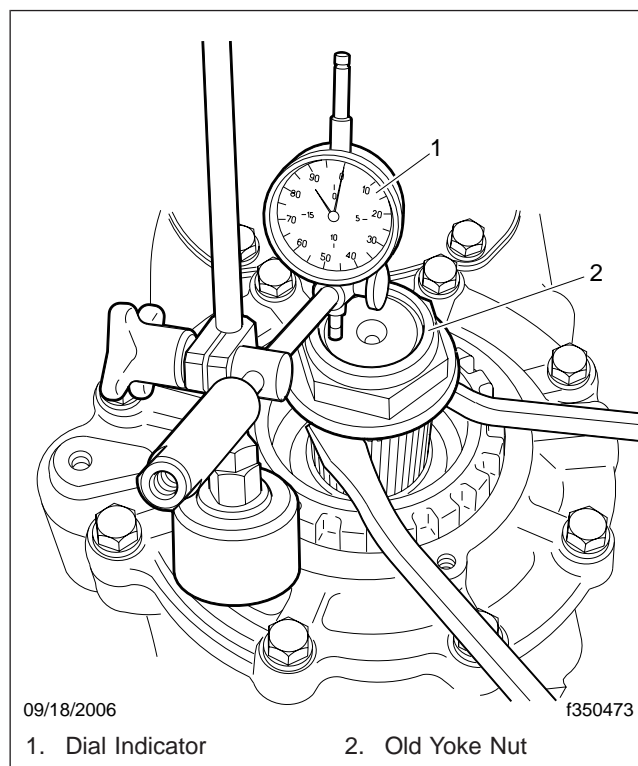

Fig. 4, Measuring Bearing Preload
- 10.1 Install a dial indicator on the bearing cage and using two pry bars, pry up evenly on the yoke nut (and the input shaft) to determine the bearing preload. See Fig. 4.